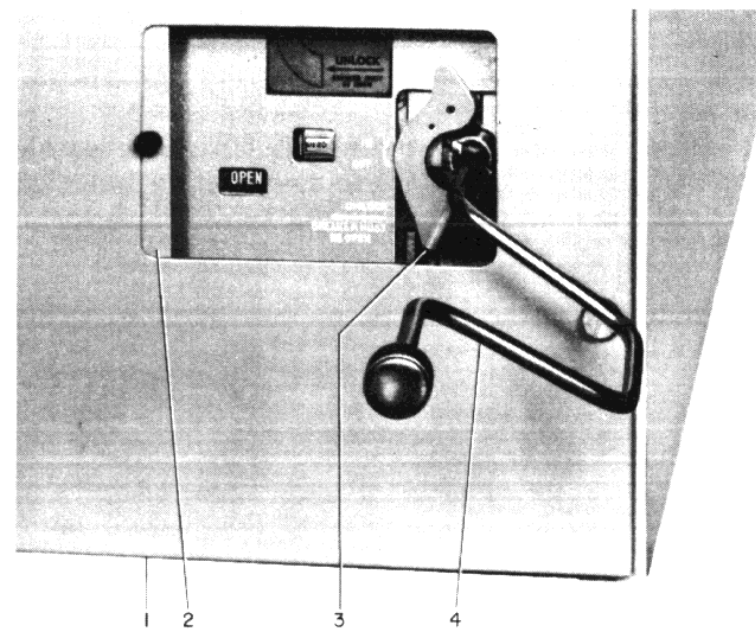

Fig. 4 — Method of Racking Circuit Breaker
Engage racking crank (4, Fig. 4) and push racking unlocking lever (3) to left, then rotate racking crank counterclockwise only until resistance to motion is felt. (DO NOT FORCE.)
To rack circuit breaker to "TEST" position, push racking unlocking lever (3, Fig. 4) to left, rotate racking crank approximately $\frac{1}{4}$ turn clockwise, then release unlocking lever. Continue cranking until racking mechanism automatically stops at "TEST" position.
When racking circuit breaker to "CONNECTED" position, close compartment door (1, Fig. 4) and insert racking crank (4, Fig. 4) through sliding panel (2, Fig. 4).
CIRCUIT BREAKER REMOVAL (See Fig. 4)